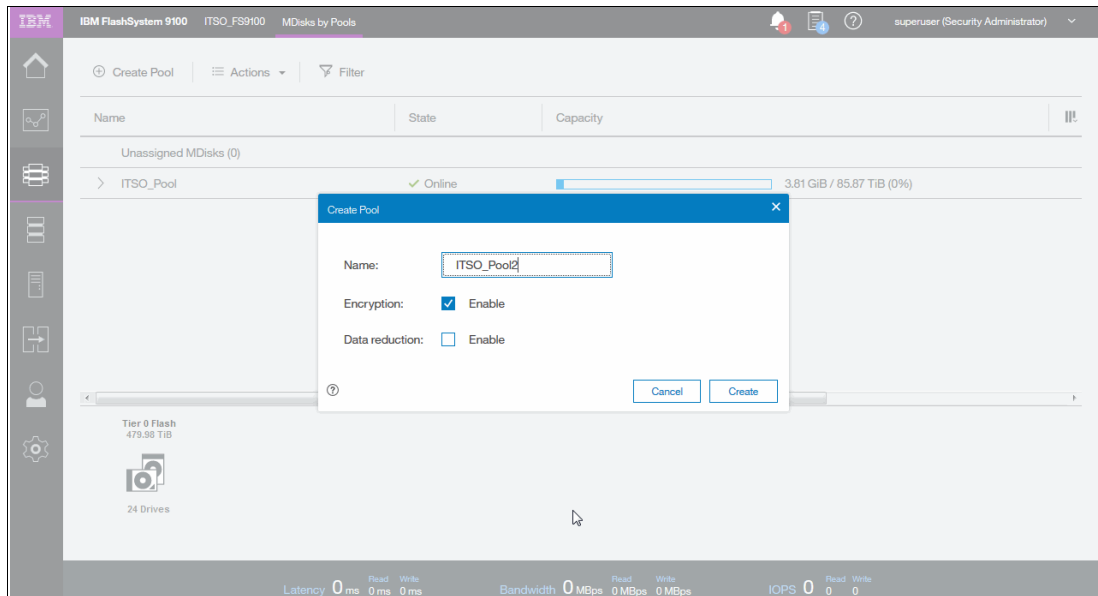

Figure 5-52 Create Storage Pool.
14. Enter the name of the new Storage Pool, for example ITSO_Pool12, as shown in Figure 5-52.